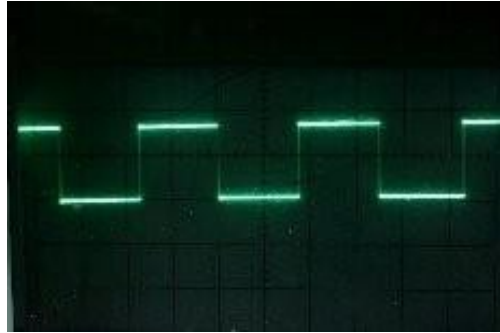

Fig.2 Square Wave 1KHz
- 3) **Be sure the T-1500 MK2 is labeled for the AC voltage of your location (See Figure 2). If it is not, DO NOT connect it to your AC outlet. Please contact your Allnic dealer.**